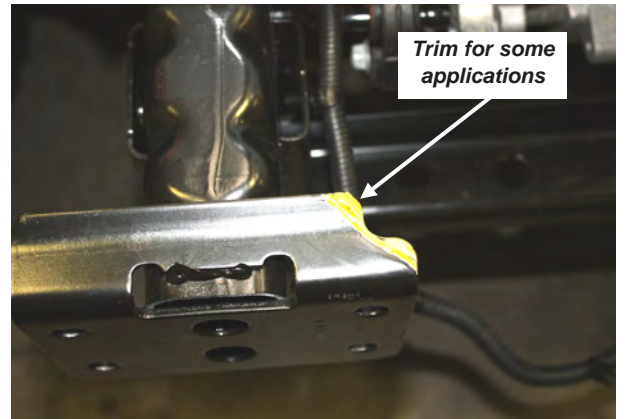

Figure 10
9. If you are installing a PowerPlant, 9.5ti or 9.5cti trim the top flange of the passenger side bumper mount. Figure 10.